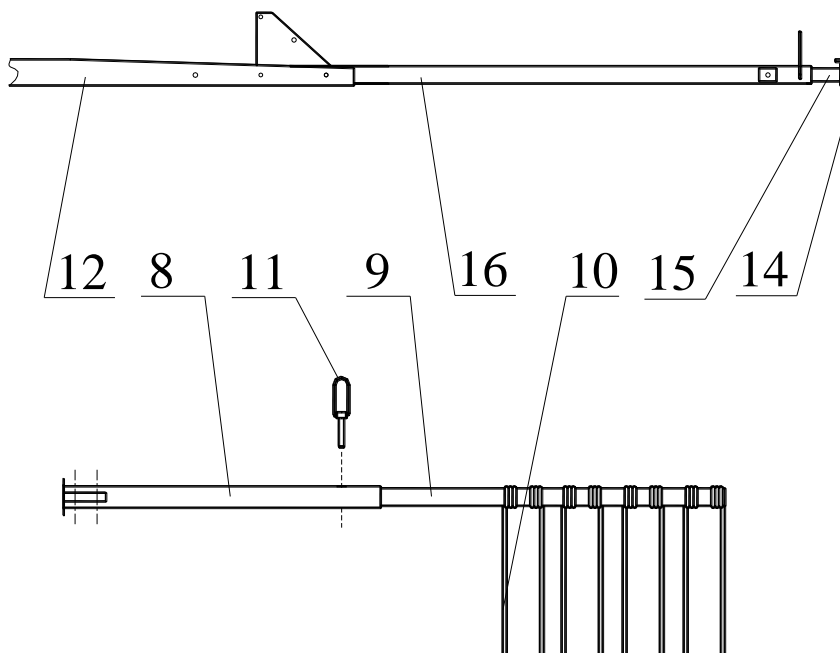

Fig. 5
For working position, the end raking arm and screen must be set as shown on figure 5.
1. Set screen 14 with arm 15 and end arms 9 as shown on figure 5.